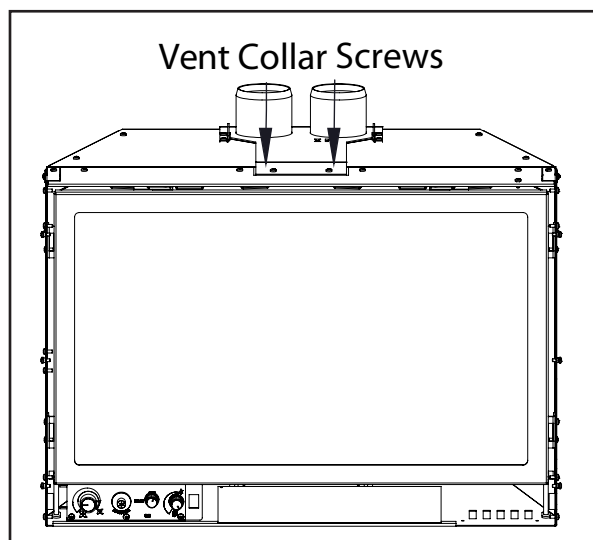

Figure 32: Vent Collar Plate Screw Location.
8. Apply a bead of stove cement sealant to the Ø3" (76mm) pipe of the exhaust vent terminal. Slide the flex liner onto the vent terminal and secure with three (3) sheet metal screws evenly spaced.
9. Place a bead of high temperature silicone on the intake collar of the vent terminal. Slide the Ø3" (76mm) flex intake liner over the collar, secure the flex liner with three (3) sheet metal screws evenly spaced. Secure the vent terminal to the chimney using adequate sealant, and according to local building codes.
10. If the fireplace opening is lower than 24" (610 mm), remove the vent collar plate from the top of the insert by unscrewing the two (2) T-20 Torx screws located on the center top of the stove above the door opening (see Figure 32). Slide the collar plate backwards. Properly secure the vent collar plate to the flexible vent pipe liner(s) previously installed in the chimney. Be careful not to over-stretch the liner(s).
11. Apply a bead of stove cement sealant to the top section of the Ø3" (76mm) exhaust vent collar plate. Slide the Ø3" (76mm) flex vent over the flue collar and secure with three (3) sheet metal screws evenly spaced.
12. Place a bead of high temperature silicone on the intake collar of the fireplace, slide the Ø3" (76mm) flex intake liner over the collar, secure the flex liner with three (3) sheet metal screws evenly spaced.